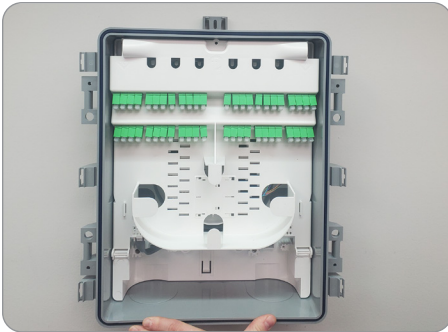

Figure 5
1. Determine the mounting position of the enclosure on the wall or mounting location. (Figure 5)